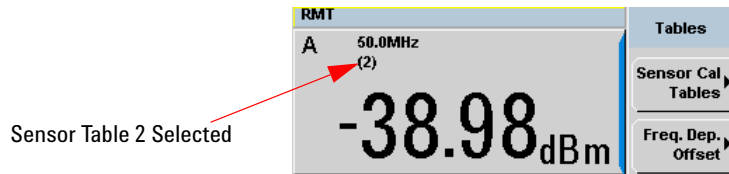

Figure 6-9 Frequency dependent offset indicator
- 4 Press **Done** again to display the measurement screen. Figure 6-9 shows which offset table is selected.